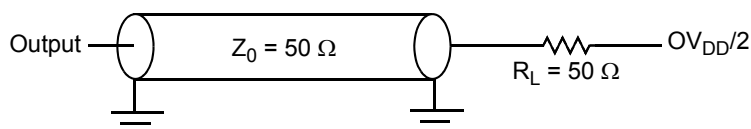

Figure 32. AC Test Load for the JTAG Interface
1. All outputs are measured from the midpoint voltage of the falling/rising edge of t_{CLK} to the midpoint of the signal in question. The output timings are measured at the pins. All output timings assume a purely resistive 50- Ω load (see Figure 32). Time-of-flight delays must be added for trace lengths, vias, and connectors in the system.
2. The symbols used for timing specifications follow the pattern of $t_{(first\ two\ letters\ of\ functional\ block)(signal)(state)(reference)(state)}$ for inputs and $t_{(first\ two\ letters\ of\ functional\ block)(reference)(state)(signal)(state)}$ for outputs. For example, t_{JTDVXH} symbolizes JTAG device timing (JT) with respect to the time data input signals (D) reaching the valid state (V) relative to the t_{JTG} clock reference (K) going to the high (H) state or setup time. Also, t_{JTDVXH} symbolizes JTAG timing (JT) with respect to the time data input signals (D) went invalid (X) relative to the t_{JTG} clock reference (K) going to the high (H) state. Note that, in general, the clock reference symbol representation is based on three letters representing the clock of a particular functional. For rise and fall times, the latter convention is used with the appropriate letter: R (rise) or F (fall).